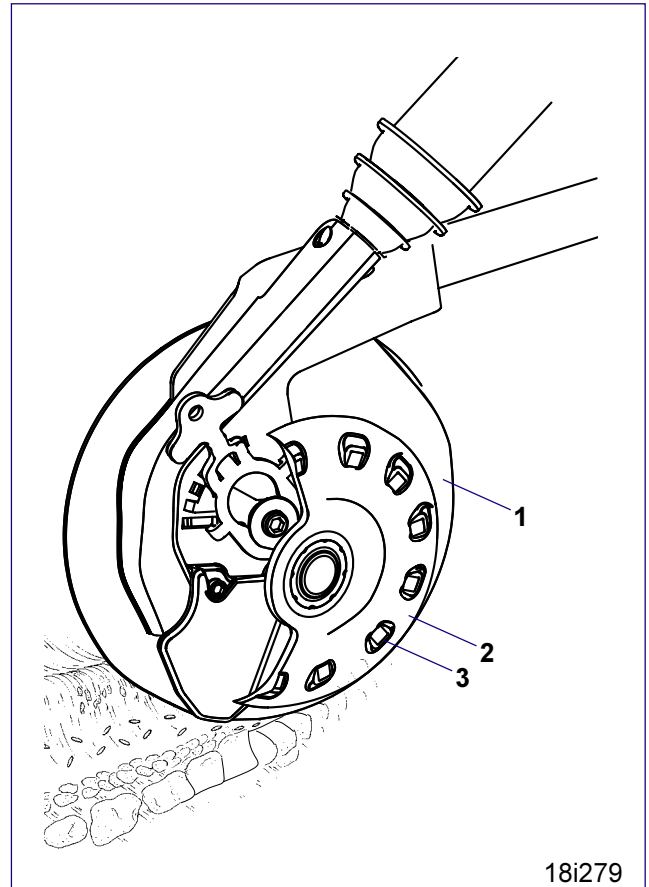
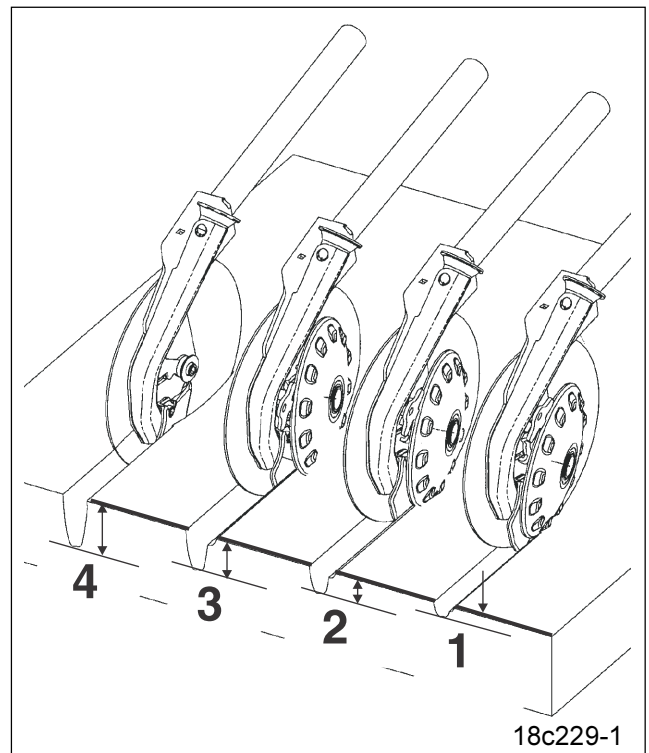

Fig. 2.6
Fig. 2.7
The AMAZONE RoTeC-coulter (Fig. 2.6) optimised sowing accuracy, acreage efficiency and operational life when sowing after the plough or mulch sowing.
The steel disc (Fig. 2.6/1) operates at a small angle of only 7° from the driving direction so that they throw only little soil even at high forward speeds.
A coulter corpus cast from hard steel alloy shapes a rectangular seed groove right behind the discs so that a uniform seed depth placement is achieved. Due to the slight angling only little soil sticks to the front side of the disc even on sticky soils. The rear of the disc is cleaned by a polyurethane (PU) disc (Fig. 2.6/2). This PU-disc can quickly and easily be fitted and removed without any tool.
The PU-disc (Fig. 2.6/2) operates as a depth limiter. It rolls on the soil surface and this way limits the soil penetration depth of the steel disc. This penetration depth can be set by hand in three steps from 2 to 4 cm (Fig. 2.7, item 1-3)
The naps (Fig. 2.6/3) on the PU-disc increase its carrying capacity. For shallow seed placement on very high soils a depth limiting disc with wider naps is available.
For deep sowing of more than 4 cm (Fig. 2.7, item 4) the depth limiting disc is removed without any tool.